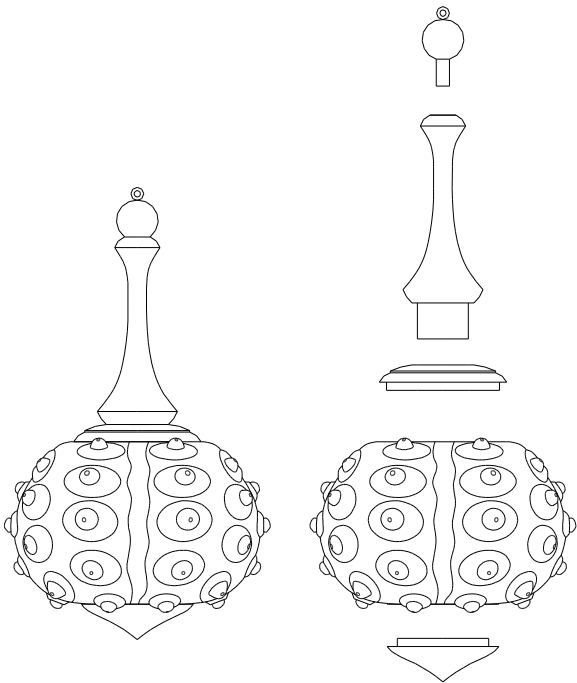
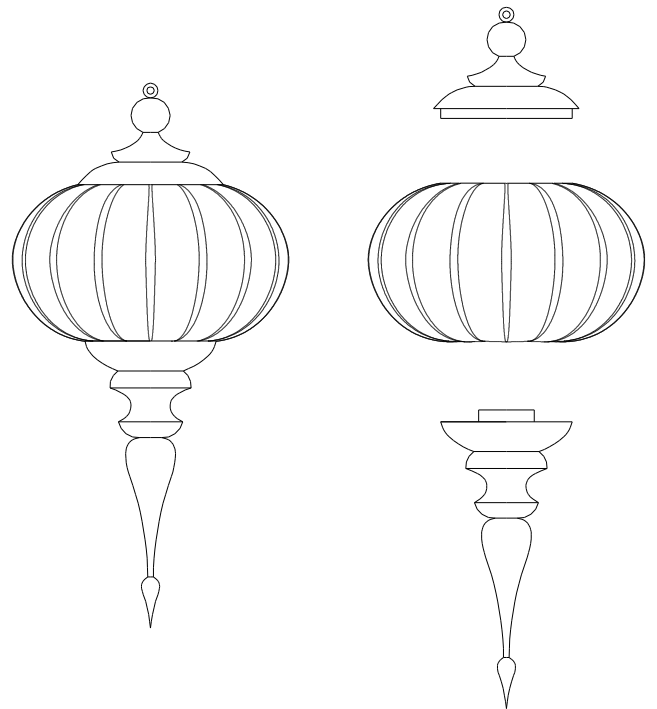

Figure 9: Alternative Design 1
Figure 10: Alternative Design 2
- Some alternative designs can be found in Figure 9 and Figure 10.